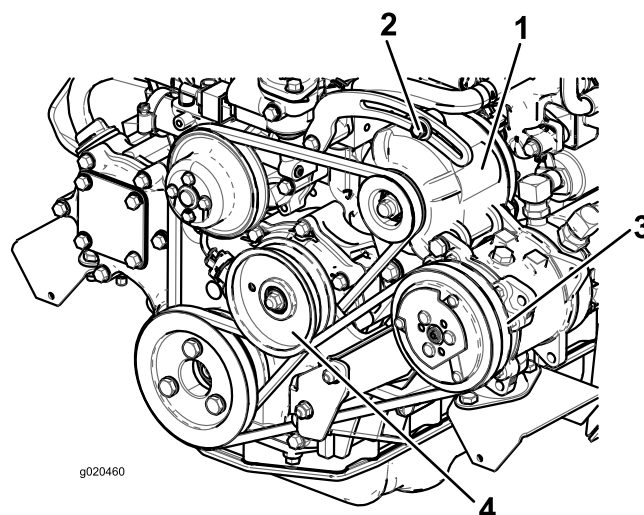

Figure 68
Check the condition and tension of the belt (Figure 68) after every 100 operating hours.
2. If the deflection is not 10 mm (3/8 inch), loosen the alternator mounting bolts (Figure 68). Increase or decrease the alternator belt tension and tighten the bolts. Check the deflection of the belt again to ensure that the tension is correct.
2. If the deflection is not 10 mm (3/8 inch), loosen the idler pulley mounting bolt (Figure 68). Increase or decrease the compressor belt tension and tighten the bolt. Check the deflection of the belt again to ensure that the tension is correct.